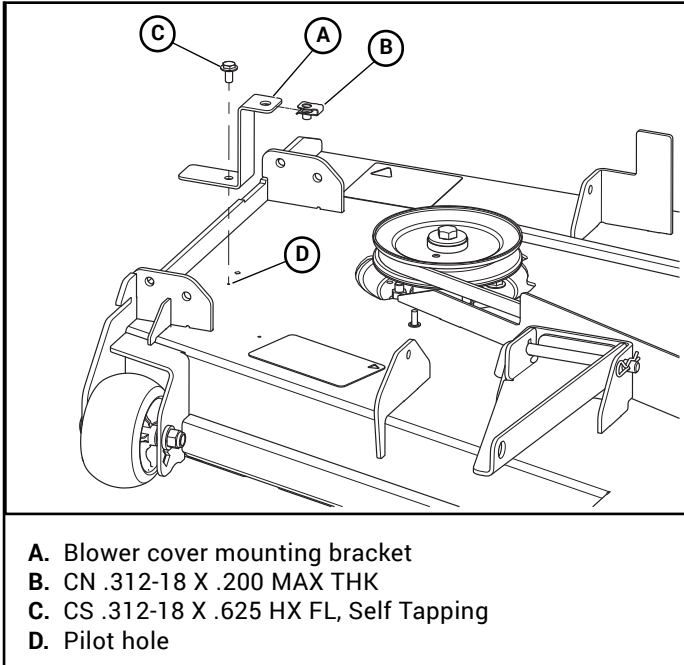

Figure 3-13
18. Locate the pilot hole on the deck between the chute pivot tabs. Drill the hole to 9/32" before attaching the blower cover mounting bracket as shown. Figure 3-13